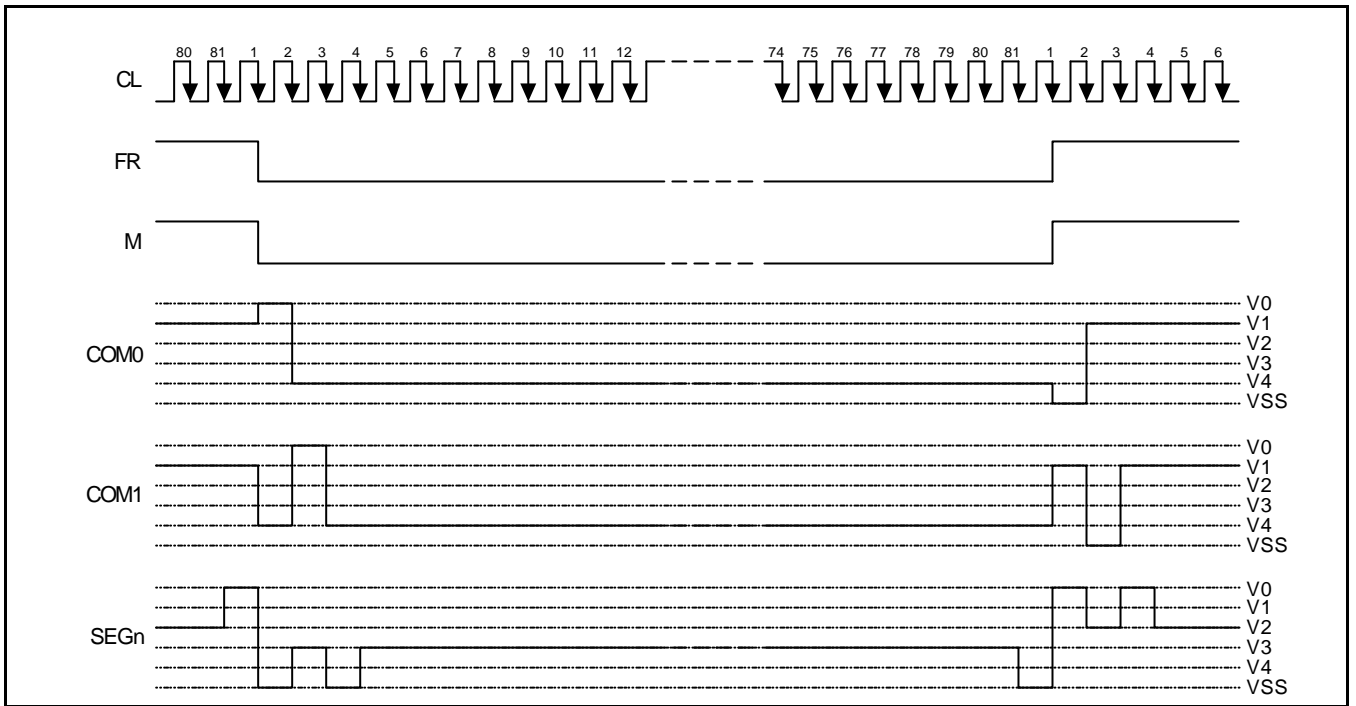

Figure 12. 2-frame AC Driving Waveform (Duty Ratio = 1/81)
This circuit generates some signals to be used for displaying LCD. The display clock, CL, generated by oscillation clock, generates the clock for the line counter and the signal for the display data latch. The line address of on-chip RAM is generated in synchronization with the display clock (CL) and the display data latch circuit latches the 104-bit display data in synchronization with the display clock. The display data, which is read to the LCD driver, is completely independent of the access to the display data RAM from the microprocessor. The display clock generates an LCD AC signal (M) which enables the LCD driver to make a AC drive waveform, and also generates an internal common timing signal and start signal to the common driver. The frame signal or the line signal changes the M by setting internal instruction. Driving waveform and internal timing signal are shown in figure 12.